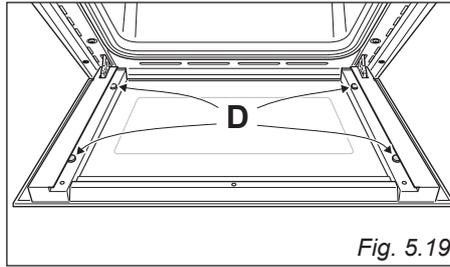

Fig. 5.19
- Check that the four rubber pads are in place ("D" in fig. 5.19).